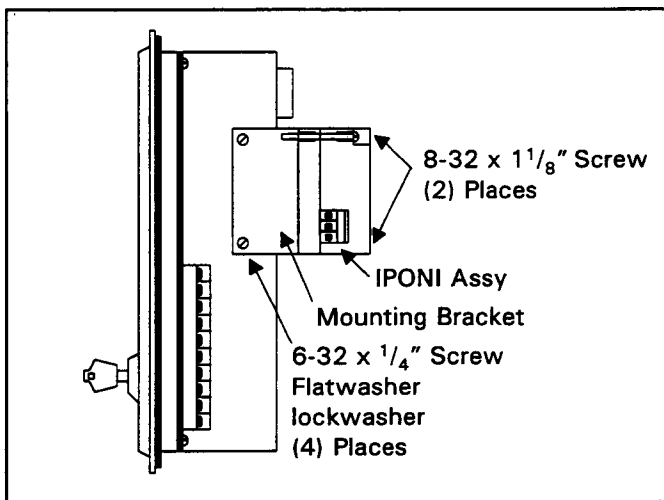
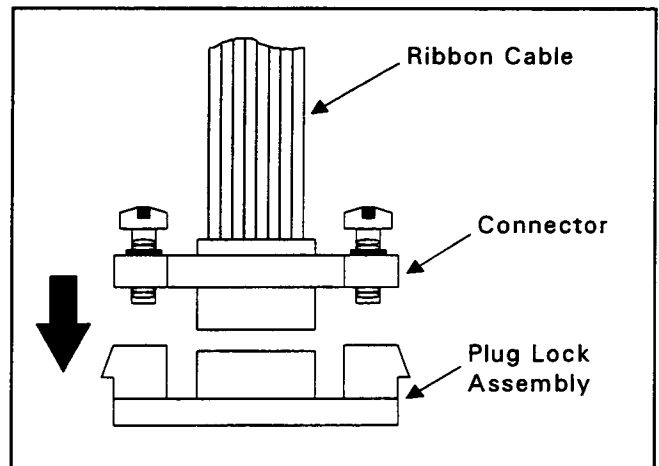
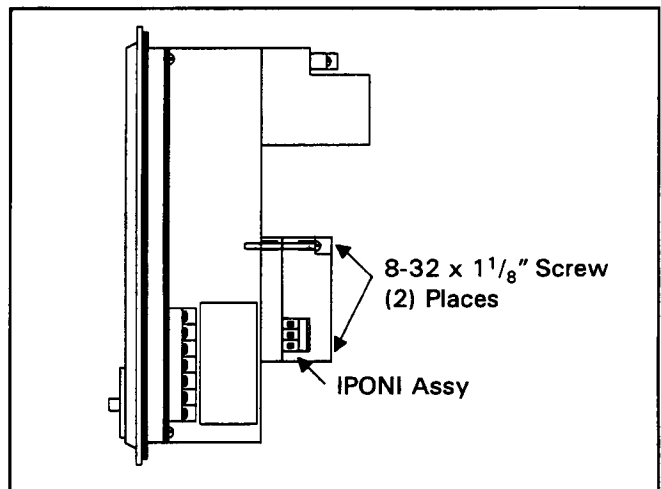
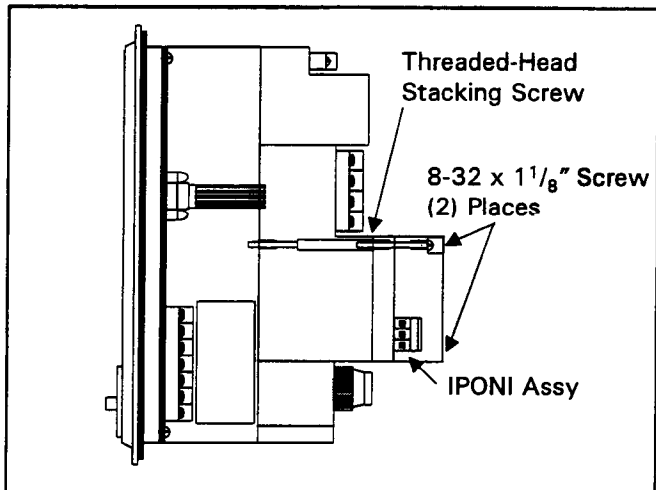

Figure 2 IQ 1000 Mounting
Figure 3 Attaching to the Plug Lock Assembly
Figure 4 IQ Data Plus without Power Module
Figure 5 IQ Data Plus with Power Module
Disconnect power to the IQ 1000. Mount bracket using the hardware indicated (see figure 2). Mount the I-PONI to the bracket (Part Number 7066C18H01) with LED and address switches on top and ribbon cable on the right. Insert the nine-pin connector attached to the I-PONI's ribbon cable into the matching receptacle on the IQ 1000 (see figure 3). With the plug lock assembly in position, tighten the lock assembly screws. Wire into network with twisted pair. Repower device.
Disconnect power to the IQ Data Plus. Mount I-PONI on the back of the IQ Data Plus using hardware indicated, with the LED and address switches on top and the ribbon cable on the right (see figure 4). Connect the ribbon cable from the I-PONI to the receptacle of the IQ Data Plus and screw the plug lock assembly tight (see figure 3). Repower device.
Disconnect power to the IQ Data Plus. Mount the I-PONI to the threaded head stacking screws of the power module with the screws included with the I-PONI (see figure 5). Mount the I-PONI with the LED and address switches on top and the ribbon cable on the right. Connect the ribbon cable from the I-PONI to the receptacle of the IQ Data Plus and screw the plug lock assembly tight (see figure 3). Repower device.
- Make sure that there is a twisted wire pair present that is intended for IMPACC network use. Use twisted pair wire (IMPCABLE, Belden 9463, or equivalent) to connect each I-PONI to the IMPACC network, daisy-chain style (see figure 2). Attach the twisted pairs to the three-pole plug located on the side of the I-PONI assembly. **The polarity of the twisted pair is not important.**